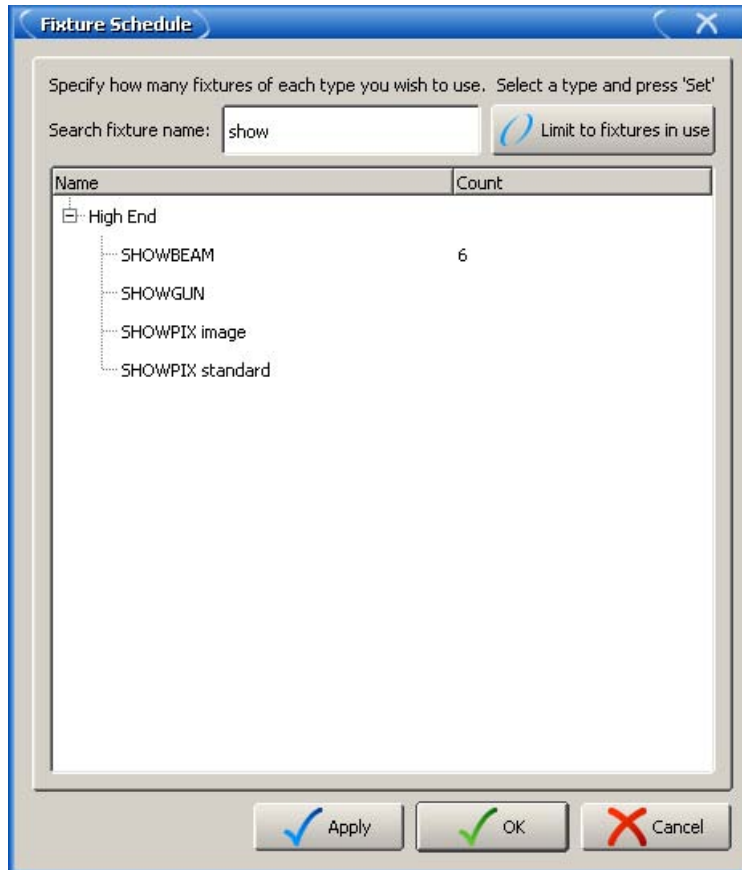

Figure 14.3. The Fixture Schedule Search Feature
4. Alternatively, type a fixture name into the Search fixture name field at the top of the window; see *Figure 14.3, “The Fixture Schedule Search Feature”*.